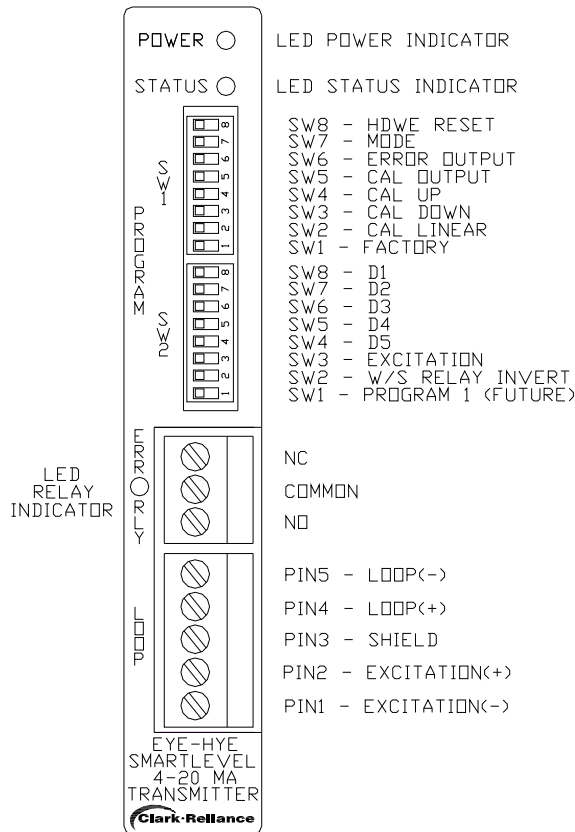

Figure 17 – 4-20 mA Transmitter Wiring and DIP Switches
- 2) A Water-Over-Steam, (W/S), error detection is available on an isolated form C relay output. The relay is rated the same as in section 8.2. The water over steam output actuates a relay should the level rise discontinuously from the bottom of the column to warn of a faulty output condition. It can also be User selected to be inverted for fail-safe operation and be indicated on the SYSTEM STATUS LED on all the LED indicators. The 4-20mA’s GREEN LED lights when the relay is energized. See Figure 17 on the next page.
The relay contact outputs are available on the GREEN 3 pin connector and are wired as either normally open or normally closed circuits through the common contact as shown on the next page in Figure 17.
The front panel DIP switches allow the User to modify calibration, excitation, and relay configurations. DIP Switch functions are turned ON when switches are switched to the right and turned OFF when switched to the left. Note that there are two eight-position DIP switches marked SW1 and SW2, upper and lower respectfully. See Figure 17 for position and orientation. The functions of the DIP switches are explained as follows: